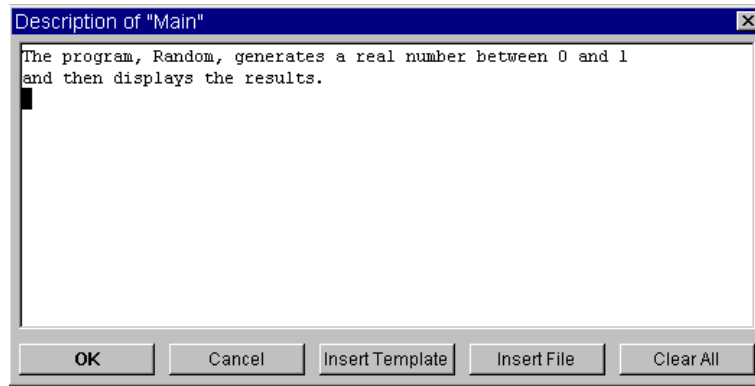

Figure 2-34. The Description Dialog Box
2. In the Main object menu, click `Description`. Type text in the dialog box as shown in Figure 2-34: Click OK when you are done.